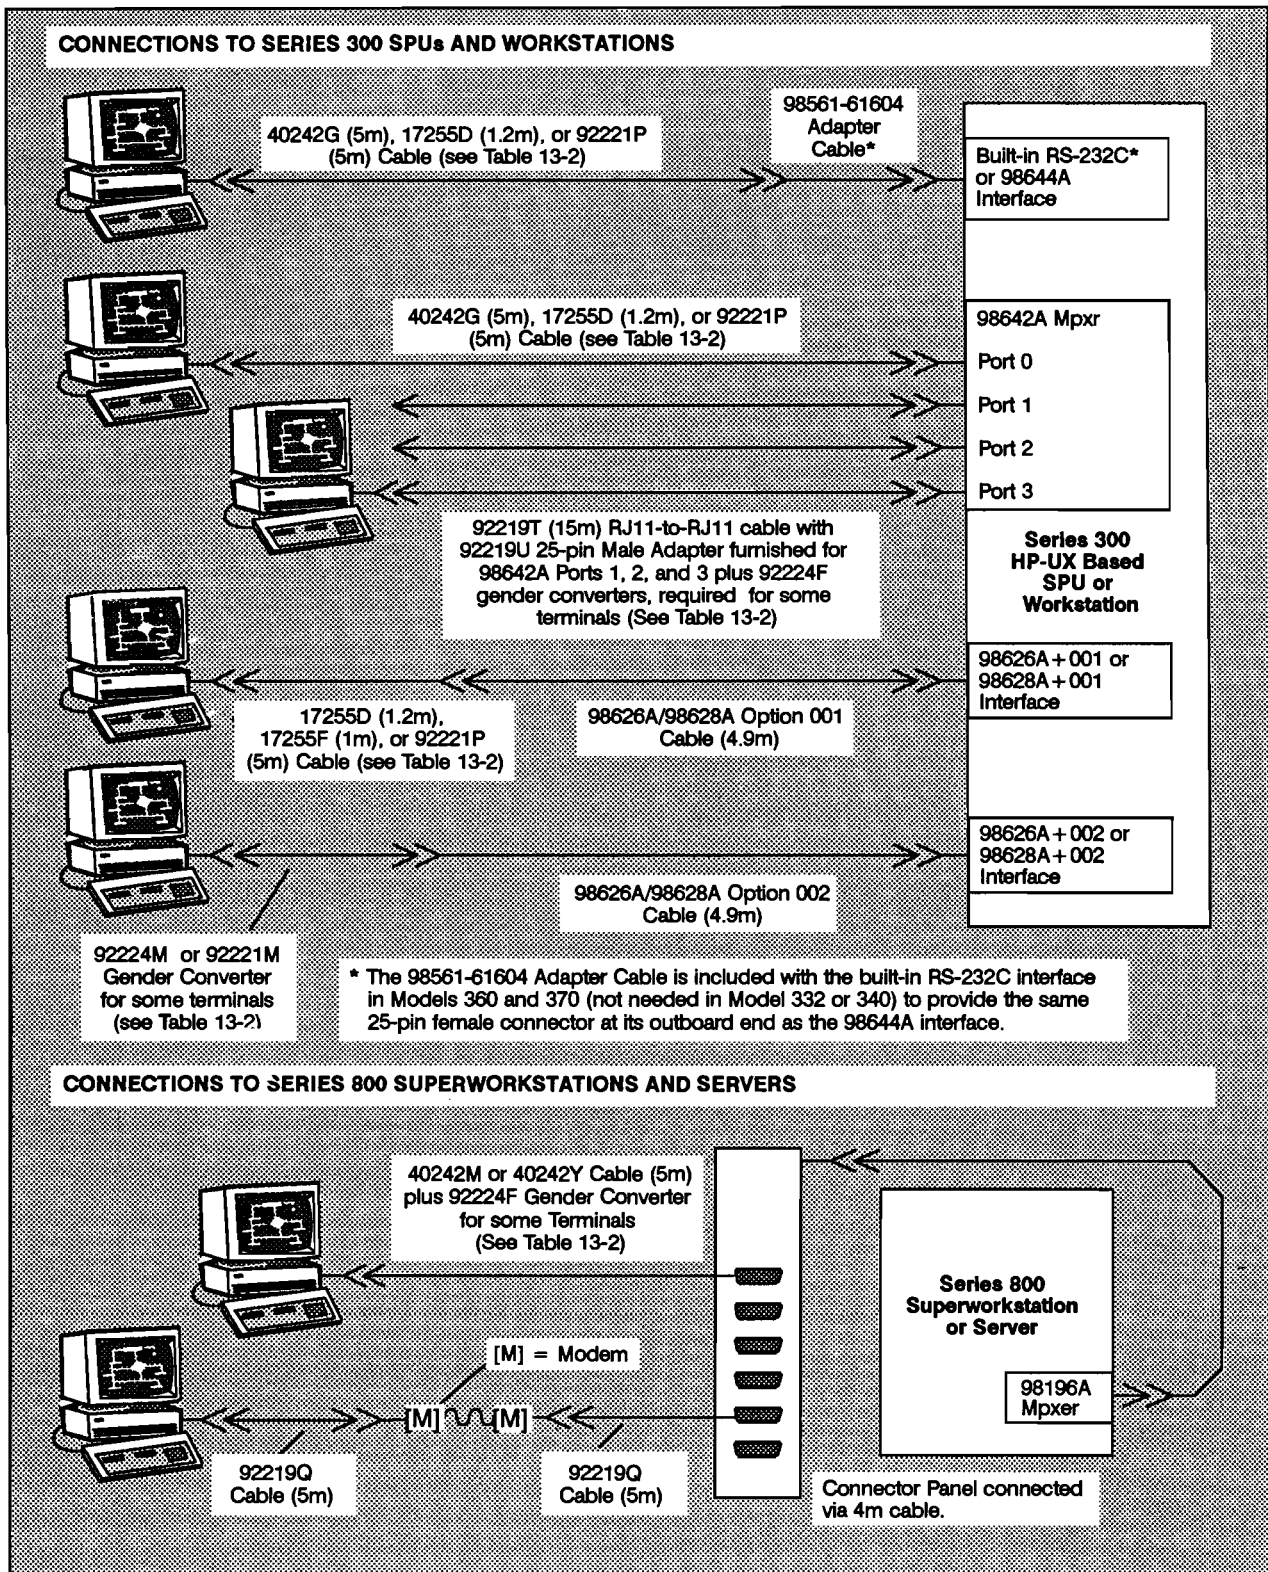

Figure 13-3. Display Terminal RS-232C Connections to Series 300 SPU^s and Workstations and Series 800 Superworkstations and Servers
- Display Terminals and PCs (see Table 13-2, page 13-4, and Figures 13-3 and 13-4, pages 13-3 and 13-5).
Series 300 SPUs and Workstations and Series 800 Superworkstations and Servers connect to display terminals and PCs via RS-232C interfaces as shown in Figure 13-3, next page, and cables as summarized in Table 13-2, page 13-4. The Series 300 system console can connect to any of the single-port RS-232C interfaces, but must connect to Port 0 of the 98642A four-port multiplexer. A display terminal used as system console in a Model 825 or 835 Superworkstation uses one of the six multiplexer ports and the optional access port uses another. No single-port RS-232C interface is available for Model 825 or 835 Superworkstations.